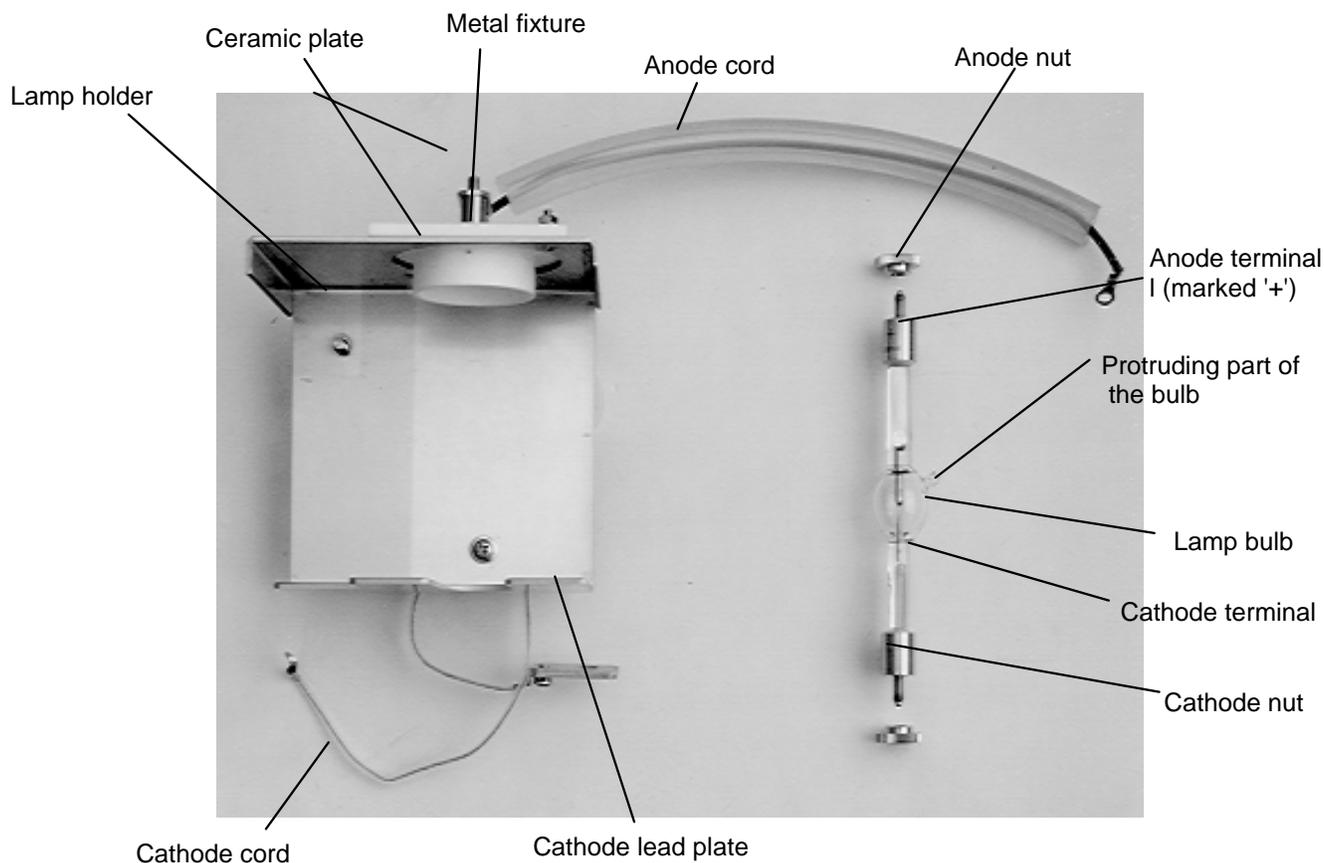
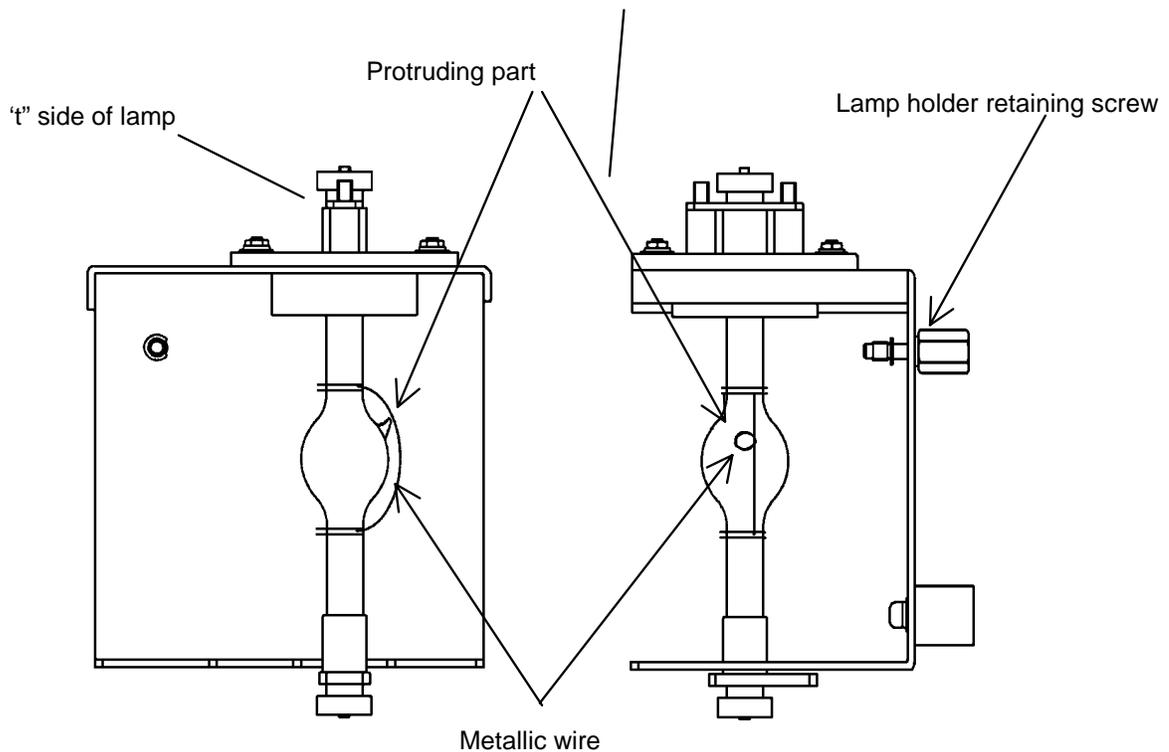

Figure 13 Xenon Lamp and Its Holder
Figure 14 Protrusion of Lamp Bulb
2. When placing the xenon lamp in the lamp holder, (Figure 13), put the anode terminal (marked '+') of the lamp into the metal fixture on the ceramic plate. Then, using the anode nut, mount the lamp so that the protruding part of the bulb is positioned as shown in Figure 14. Do not touch the quartz envelope while the lamp is being installed. Handle the lamp by holding the metal pieces on each end of the lamp.
A thin metallic wire is attached on the center area of the bulb, as shown in Figure 14. This wire serves to ensure that the lamp is easily started. When handling the lamp, be careful not to break this wire. If the thin metallic wire is not located on the side of the lamp with the small
Mount the lamp so that the protruding part of the bulb comes to the instrument front panel side (see Figure 14).
NOTE: Mount the xenon lamp so that the protruding part of the bulb comes to the instrument front panel side (see Figure 14). A mistake in the positioning may cause an increased light loss and preclude obtaining the desired performance from the instrument.